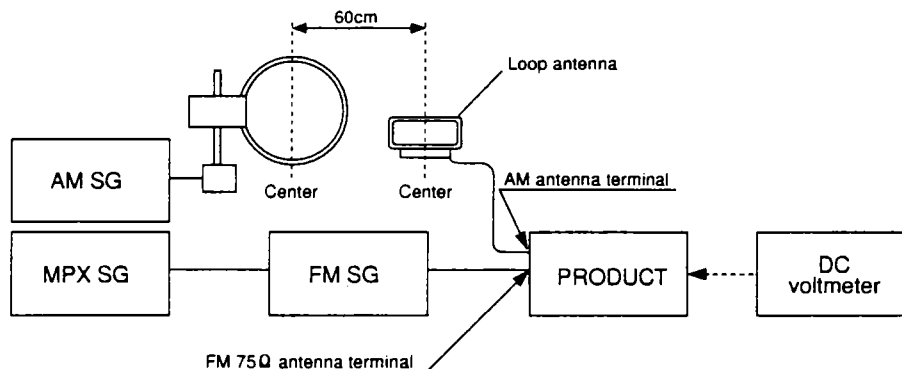

Fig. 1-1. AM and FM Adjustment Wiring Diagram
- Connect the wiring as shown in Fig. 1-1.
- Set the FM/AM selector to AM (MW) BAND.